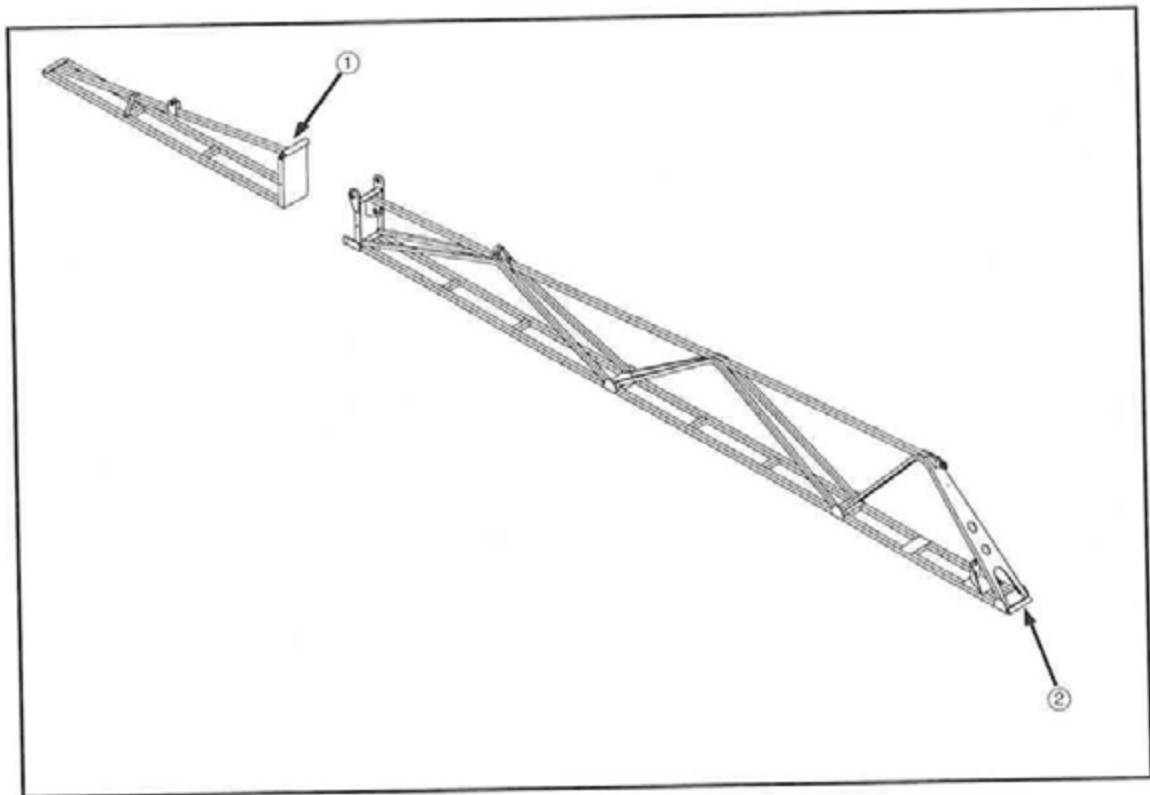

FIG 8.37
Sixty foot boom options have a grease zerk on the boom level pivot point connected to the breakaway (fig. 8.37, item 2) and on the boom extension vertical folding pivot point (fig. 8.37, item 1). Check all and grease as required.